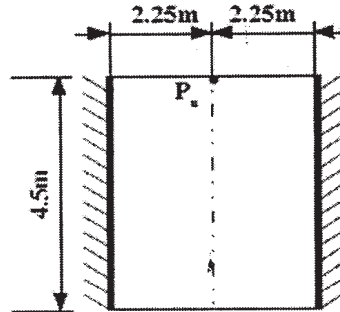

Fig. 2
- Q5)** A square slab of span 4.5 m is simply supported at two opposite sides as shown in Fig.2. The slab carries a uniformly distributed load of 15kN/m^2 . The slab is isotropically reinforced with an ultimate positive moment of resistance of 90 kN-m/m . Calculate the ultimate concentrated load P_u that can be placed at the center of free edge that would cause a flexural failure. [18]